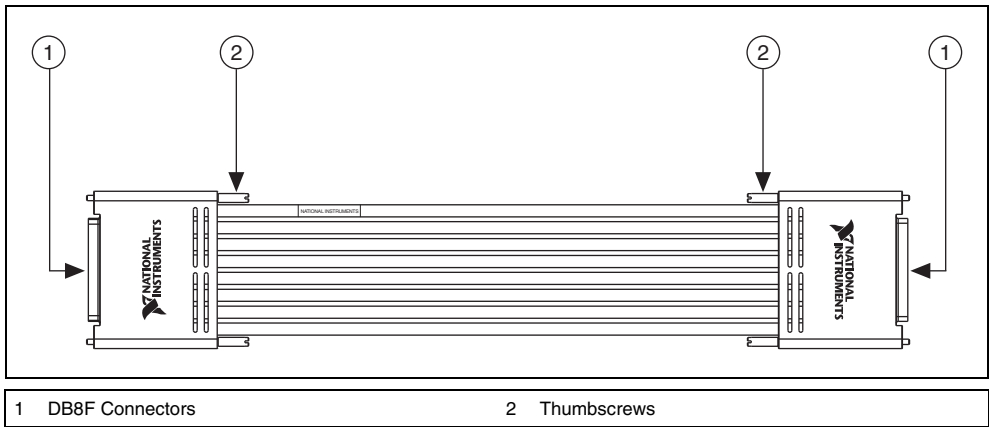

Figure 2. DB8F-DB8F-40A Cable
- Connect the second DB8F connector on the cable to your application. Refer to Figure 2.